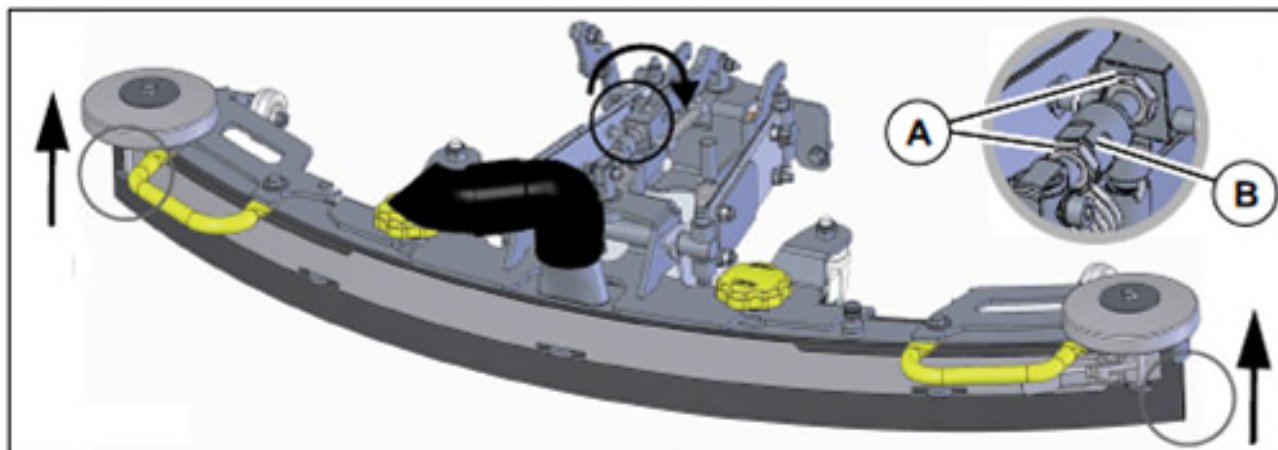

Figure 2a
2. Loosen the lock nuts (figure 2a-A) and adjust the squeegee by turning the adjusting bushing (figure 2a-B) so that the ends of the sealing strips are just about touching the ground.
The distance between the sealing strip and the ground increases at the ends figure 2a.